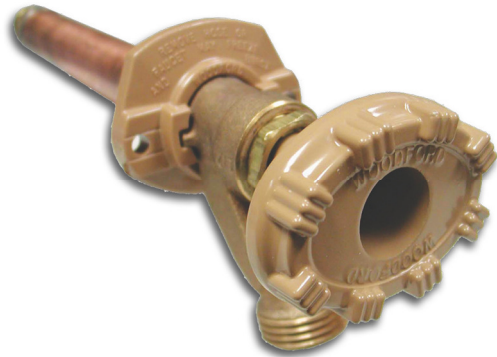

FIGURE 1
- 2) Drill a 1 1/8" diameter hole through the wall in the desired location and insert the tap from the outside. **Figure 1**
- 3) Install the tap with nozzle pointing down. **Figure 1**
- 4) From inside the building, the alignment mark on the pipe can be used to correctly align the tap when the mark is pointed down. **Figure 1**
- 5) The pipe must have a slight downward pitch for proper drainage. **Figure 1**
NOTE: The packing nut, located behind the handles, has been factory adjusted. If leakage should occur after installation or use, the packing nut can be tightened to stop the leak. **Figure 1**